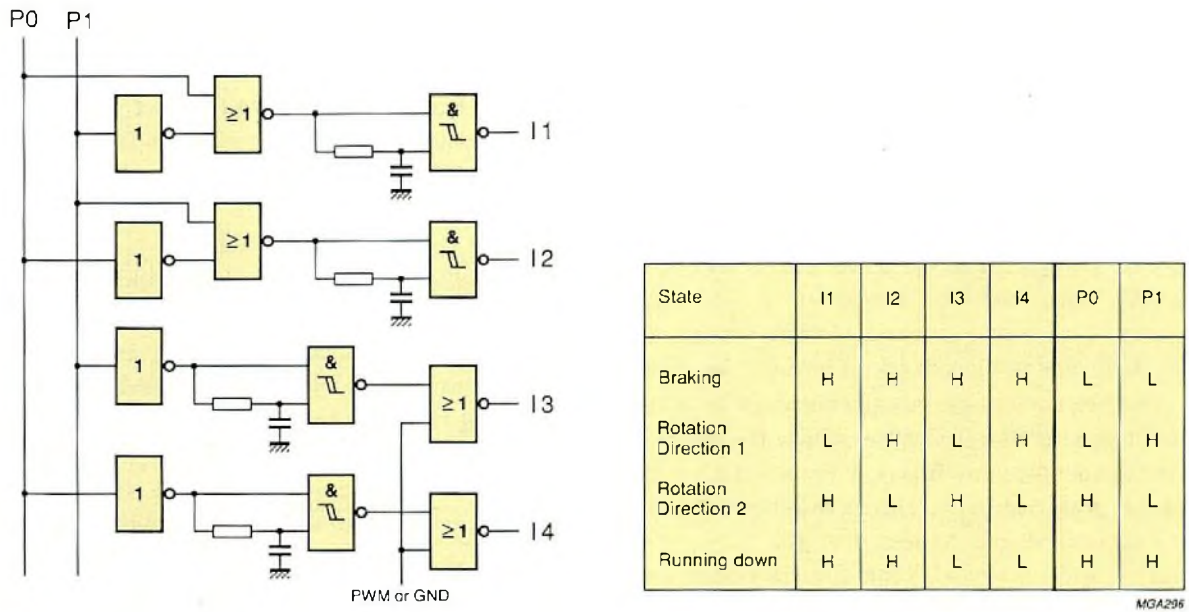
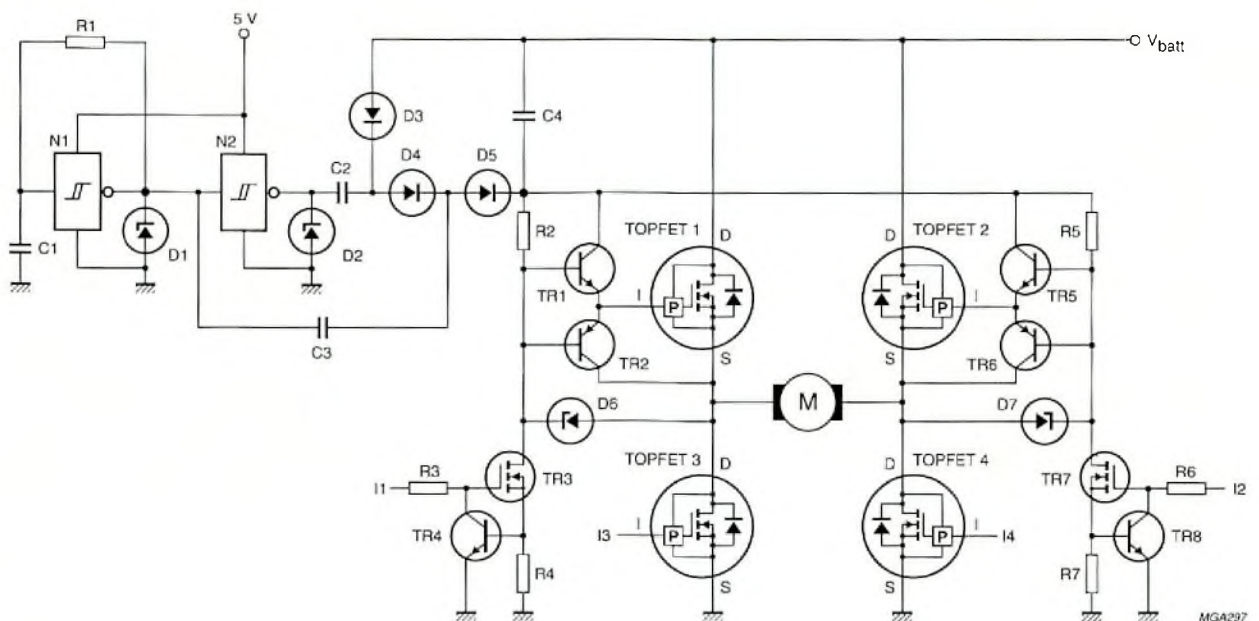

Fig.20 Bridge circuit with TOPFETs
Fig.21 Microcontroller interface for bridge drive circuit
Figure 20 shows a complete bridge drive circuit for DC motors using TOPFETs as low- and high-side switches. Due to the TOPFET protection features, the bridge is protected against any short-circuit condition (i.e. motor terminals shorted or any motor terminal connected to V_{batt} or to ground). It's also protected against a stalled motor condition and against overvoltage spikes on the supply lines. The circuit consists of the following building blocks:
- An interface circuit (shown in Fig.21) provides control of the four switch signals I1 to I4 by two input signals P0 and P1. The latter can be delivered by, for example, two port outputs of a microcontroller. The truth table in Fig.21 shows the behaviour of the bridge due to P0 and P1. Turn-on delays for each switch are designed in, to avoid the simultaneous conduction of either TOPFET 1 and TOPFET 3 or TOPFET 2 and TOPFET 4.
The bridge circuit shown in Fig.20 can also be used for PWM driving. The PWM signal can be applied to a low-side switch while the respective high-side switch is permanently on. Figure 21 shows how the PWM signal can be fed to the low-side switches via the interface circuit. For the first generation TOPFETs, the maximum switching frequency is limited to about 10 kHz. At this switching frequency the reverse recovery behaviour of the internal inverse diodes of the TOPFETs is satisfactory. The connection of faster, external freewheel diodes is, therefore, not necessary.